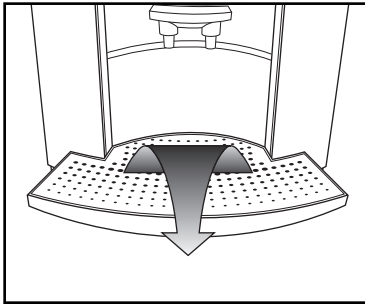

Fig. 20
**Important:** If you pull out the drawer (Fig. 20) at any time you must empty the used coffee container and the drawer. If you don't, the used coffee container will overflow inside the machine and can cause serious damage to the internal mechanism.